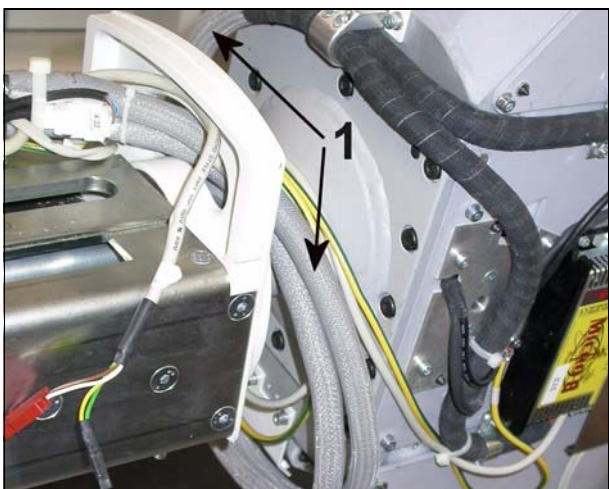

Fig. 11
- The C-arm position is in 0° orbital (center position) and 180° angulation (X-ray image intensifier below, tube on top, one turn of the cable around the angulation axis, see 1/ Fig. 11).